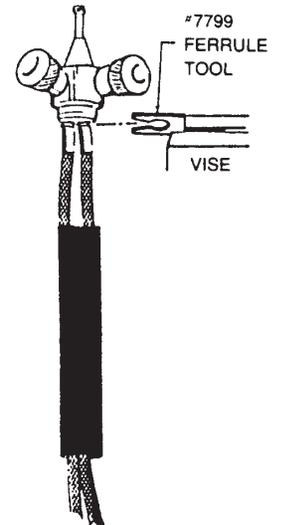

Figure 3
2. Lock ferrule tool in vise. Insert tool between torch head and ferrule. See Figure 3.